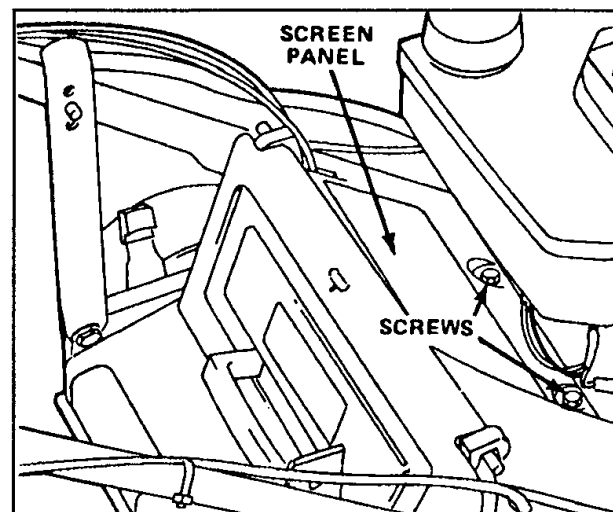

Figure 34
6. Remove screen panel on mower housing and clean around blade brake mechanism (Fig. 34 & 35).